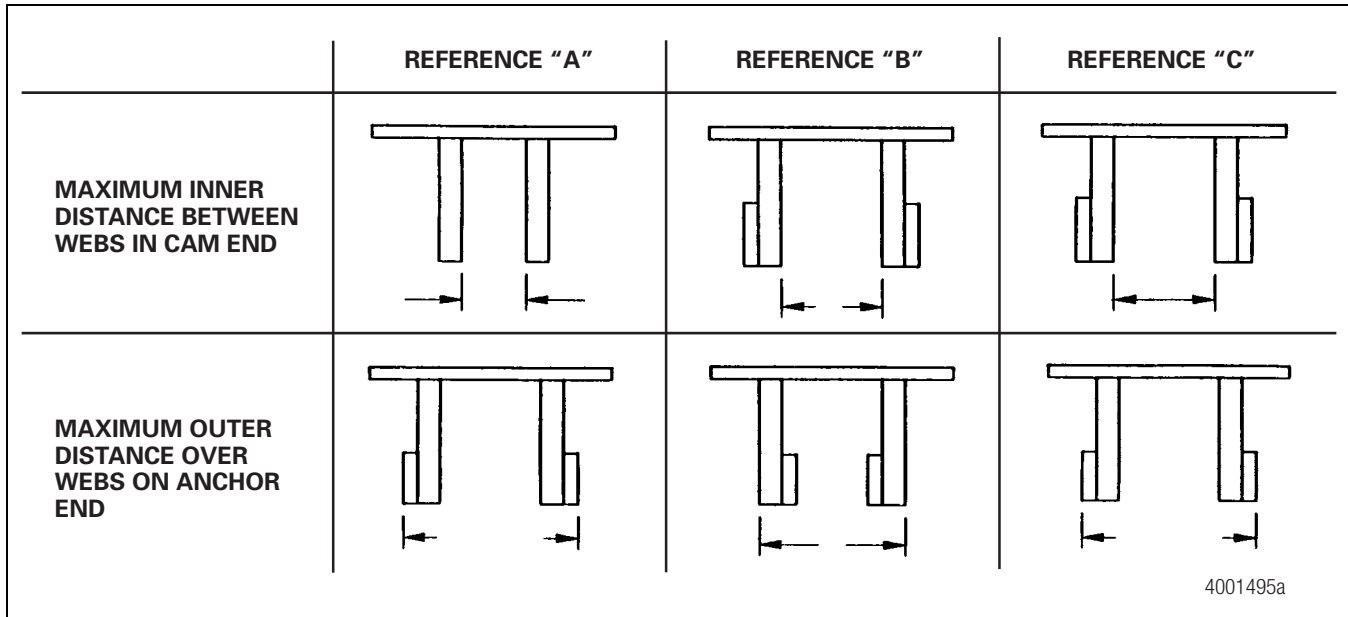

Figure 5.12
5. The distance between the webs of the shoe and the distance between the outside of the spacers at the anchor pin end must not exceed the specified dimension. Refer to Figure 5.12 and Table A for the specified distance on each end of the shoe. Replace shoes that exceed the distance.